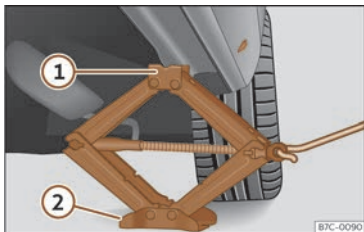

Fig. 40 Cross member: positioning the jack on the vehicle.
- Turn the jack crank handle, located below the strut support point, to raise it until the tab ① >>> Fig. 40 is below the housing provided.
- Align the jack so that tab ① “grips” onto the housing provided on the strut and the mobile base ② is resting on the ground. The base plate ② should fall vertically with respect to the support point ①.